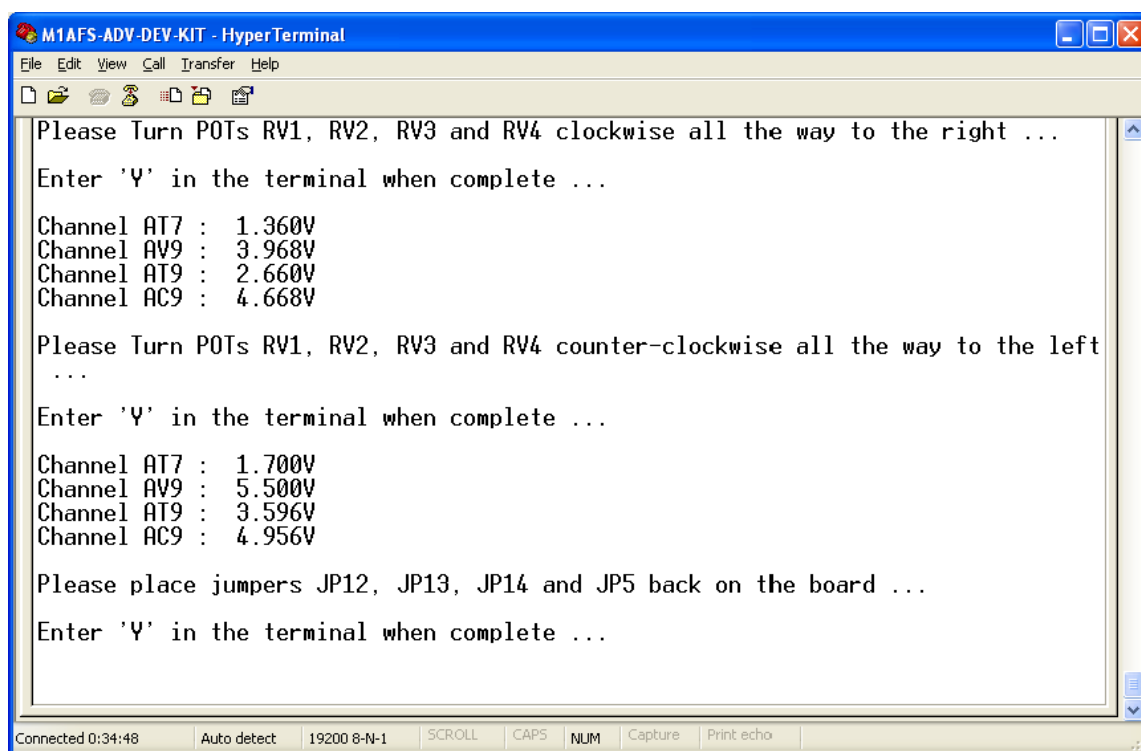

Figure C-28 · MPM Test – Replace Jumpers
20. Enter Y in the terminal when done turning the POTs. The terminal screen shown in Figure C-28 should appear.